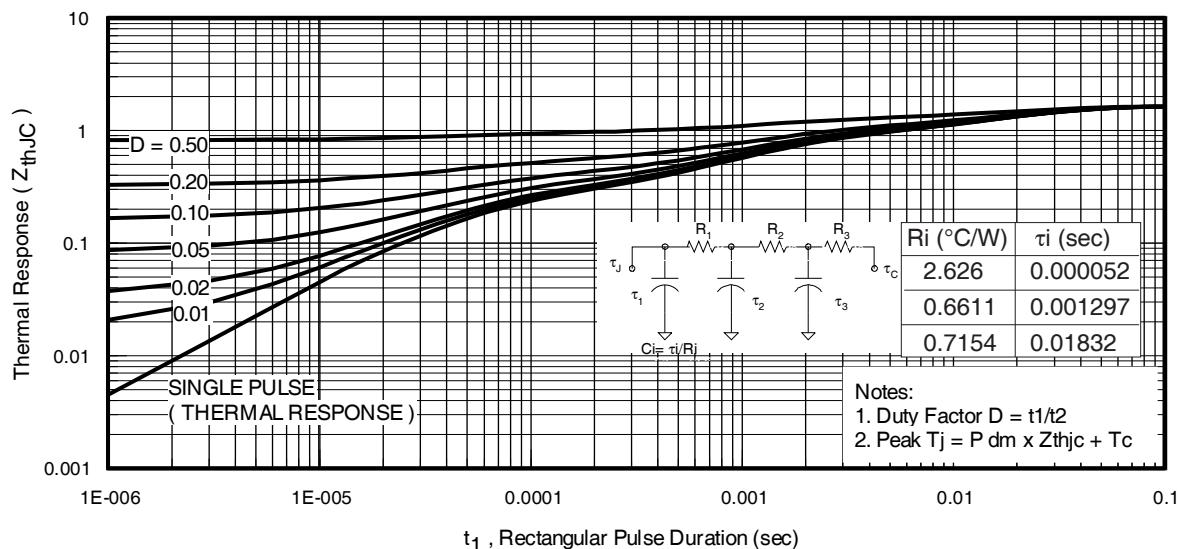
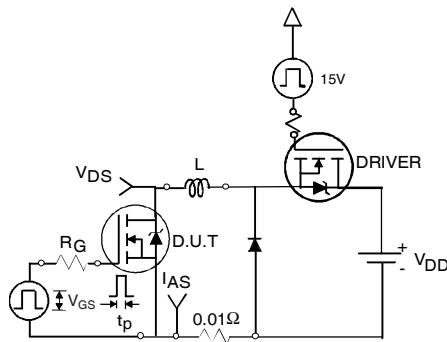

Fig 11. Maximum Effective Transient Thermal Impedance, Junction-to-Case
Fig 12a. Unclamped Inductive Test Circuit
- ① Repetitive rating; pulse width limited by max. junction temperature. (See fig. 11).
- ② Limited by T_{Jmax} , starting $T_J = 25^\circ\text{C}$, $L = 0.17\text{mH}$ $R_G = 25\Omega$, $I_{\text{AS}} = 21\text{A}$, $V_{\text{GS}} = 10\text{V}$. Part not recommended for use above this value.
- ③ Pulse width $\leq 1.0\text{ms}$; duty cycle $\leq 2\%$.
④ $C_{\text{oss eff.}}$ is a fixed capacitance that gives the same charging time as C_{oss} while V_{DS} is rising from 0 to 80% V_{DSS} .
⑤ Limited by T_{Jmax} , see Fig.12a, 12b, 15, 16 for typical repetitive avalanche performance.
⑥ This value determined from sample failure population. 100% tested to this value in production.
⑦ When mounted on 1" square PCB (FR-4 or G-10 Material).
⑧ R_{θ} is measured at T_J approximately 90°C
3. Equation below based on circuit and waveforms shown in Figures 12a, 12b.
$Z_{thJC}(D, t_{av})$ = Transient thermal resistance, see figure 11)